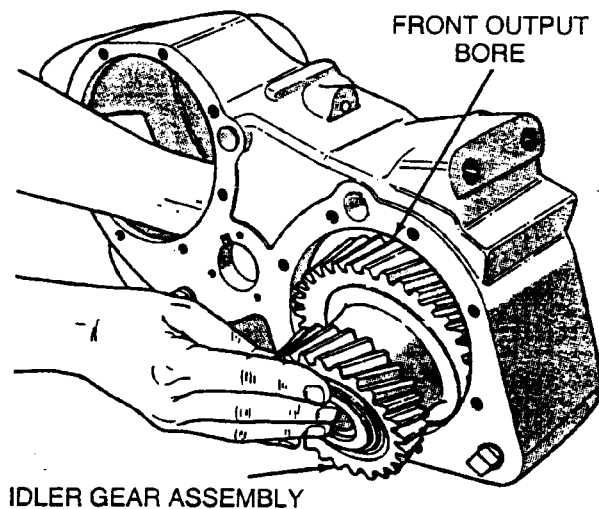

Fig. 2-10 Install Idler Gear Assembly
4. Install idler gear assembly with dummy shaft into case through front output bore, large end first. Tilt case at 45 degree angle to facilitate bearing installation at boss (Fig. 2-10).